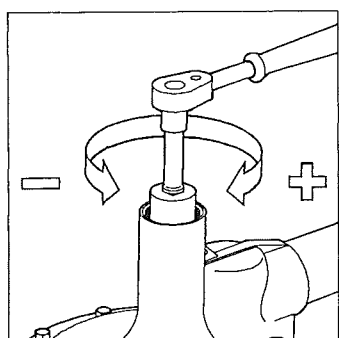

Fig. 10.
- 31) Fully unscrew and remove the adjustment screw, See Fig. 10.